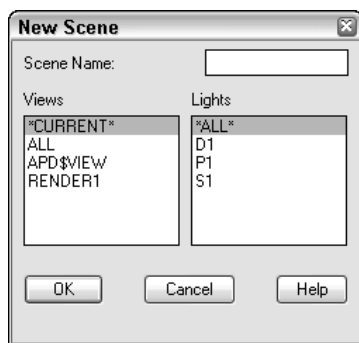

Figure 25-16: The New Scene dialog box.
1. Click New to open the New Scene dialog box, shown in Figure 25-16. The New Scene dialog box lists all the saved views and all the lights you've created.